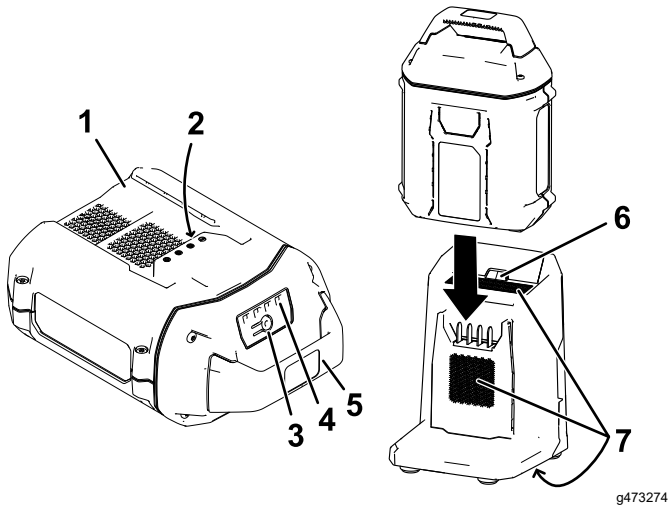

Figure 11
- 2. Line up the cavity in the battery pack (Figure 11) with the tongue on the charger.
- 3. Slide the battery pack into the charger until it is fully seated (Figure 11).